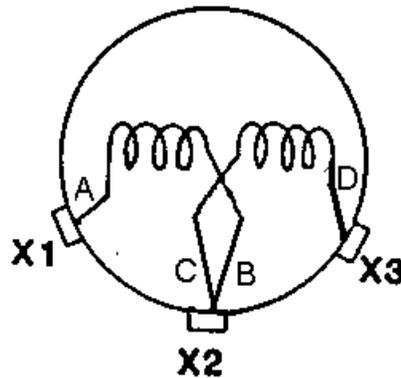

Figure 3, Series Connection
- 3.2. For a series connection, see Figure 3.